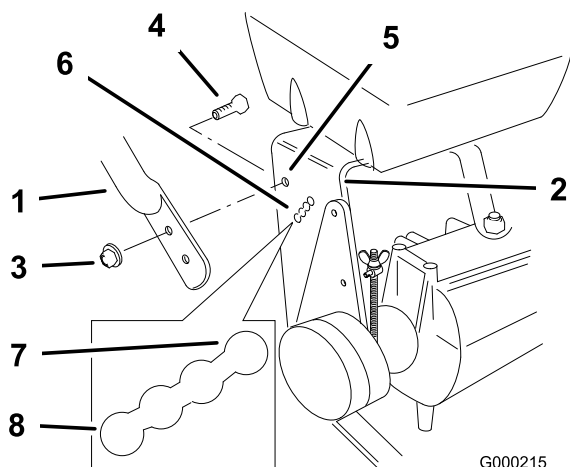

Figure 17
2. Loosen the upper flange bolts (3/8 x 1 inch) and flange nut securing handle to rear frame (Figure 17).
3. Remove the lower flange bolts (3/8 x 1 inch) and flange nuts securing handle to rear frame (Figure 17).